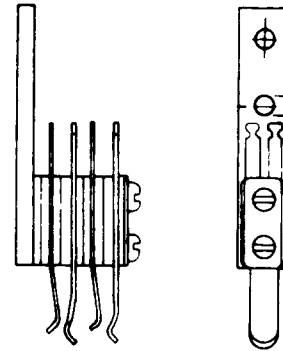

Fig. 18—348 Jack
2.18 348: This multicontact jack (Fig. 18) is used with the 240A or similar-type plug. This jack consists of a metal bracket on which are mounted two pairs of contact springs insulated from each other. This jack is intended primarily for terminating tests or talking lines in Step-by-Step Switching Systems. The terminals on this jack are arranged for mechanically wrapped connections. This jack is intended to mount apparatus pawl used in the 933D or similar-type mounting plates.